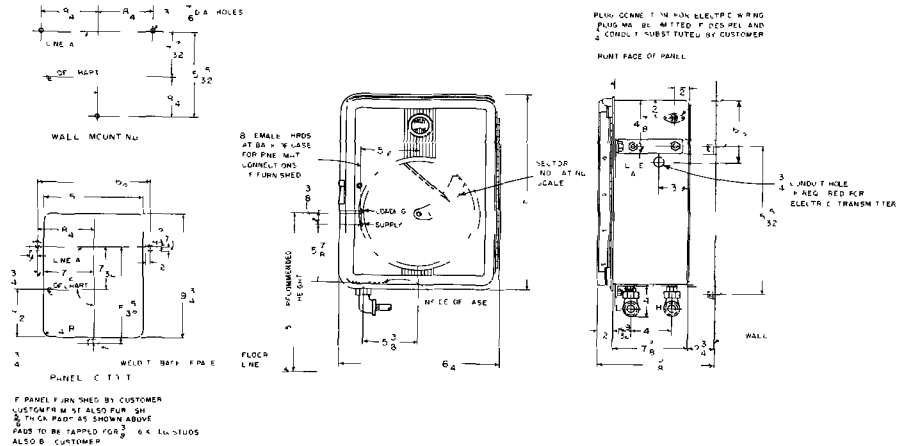

FIGURE 2 Mounting Dimensions
1. Make power connection to Recorder (or Indicator if electrical components are included) at plug connection (on side of case shown in Figure 2).